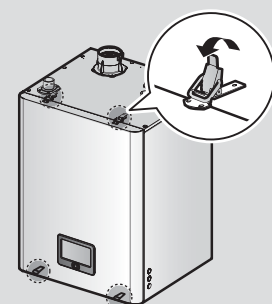

Figure 1. NFB Series Front cover
2. Unfasten the 4 latches (2 at the top and 2 at the bottom) to remove the front cover and gain access to the internal components. See Figure 1 for illustration of the front cover clamps.